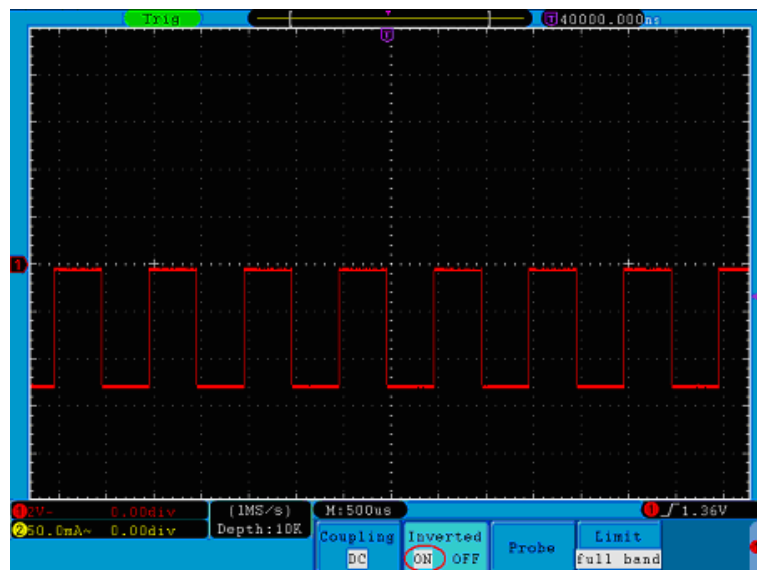

Figure 21. Inverted Waveform.
- 3 Press the **H2** menu selection button again and select **OFF** for **Inverted** item. The waveform goes back to its original one as it is shown in Figure 21.